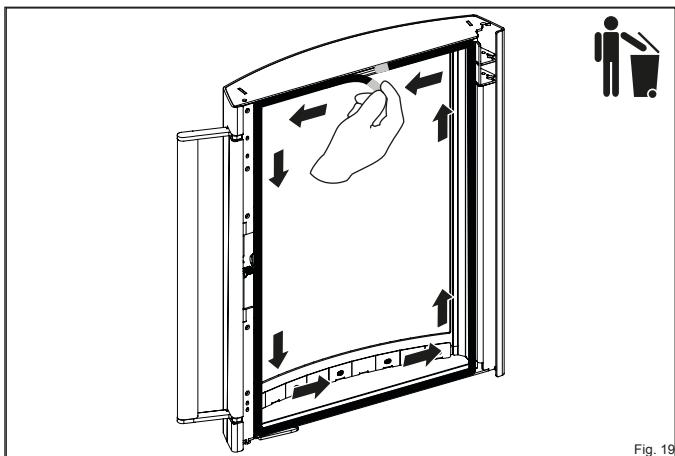

Fig. 19
- Pull the old seal out of the rail starting at one end and dispose of it in the waste (Fig. 19).